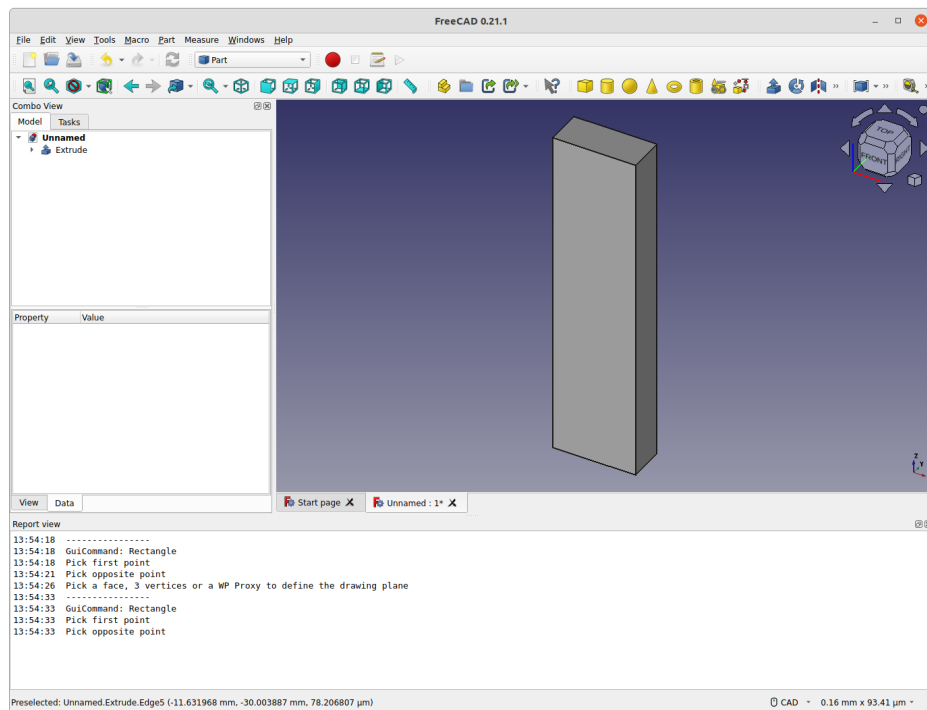

Figure 3: Screen shot of the rectangle extruded 90 μm .
- For learning purposes, change the extrusion length for the rectangle to 90 um and zoom to fit all. A reference screen shot is shown in Fig. 3.